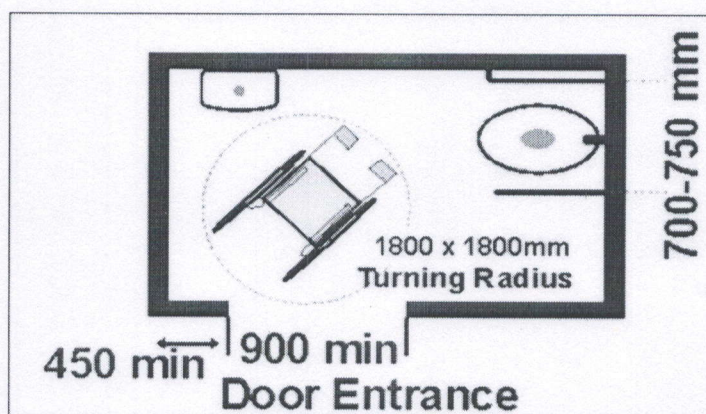

Figure 12.1: Wheelchair maneuvering Space in toilet
- The layout of the fixtures in the toilet should be such that there is a clear maneuvering space of 1800mm x 1800mm in front of the water closet and wash basin in the accessible toilet unit (Figure 12.1);